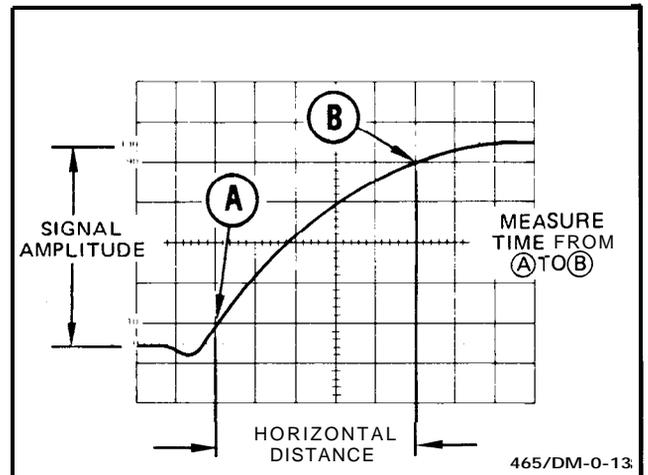

Figure 16. Rise time.
Rise-time measurements use the same methods as time duration, except that the measurements are made between the 10% and 90% points on the leading edge of the waveform (see Figure 16). Fall time is measured between the 90% and 10% points on the trailing edge of the waveform.
4. Adjust vertical positioning so that the zero reference of the waveform touches the 0% graticule line and the top of the waveform touches the 100% graticule line (see Figure 16).
6. Horizontally position the display so the 10% point on the waveform intersects the second vertical graticule line (see Figure 16, Point A).
**EXAMPLE:** The horizontal distance between the 10% and 90% points is 5 divisions (see Figure 16), and the SEC/DIV switch is set to 1  $\mu\text{s}$ . The X10 magnifier knob is pushed in (1 X magnification).